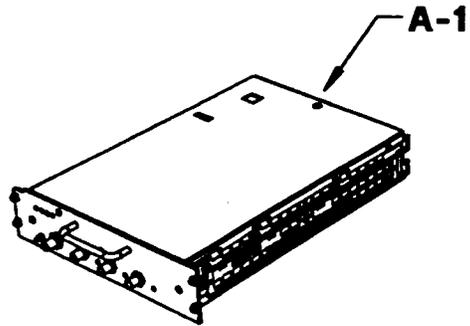

Figure 16-8A. HP E1740A Cover Removal
1. Refer to Figures 16-8A through 16-8D for locating the items referred to in the disassembly and reassembly procedures.
- 1 [A-1] Remove the top cover screw (H4) as shown in Figure 16-8A.